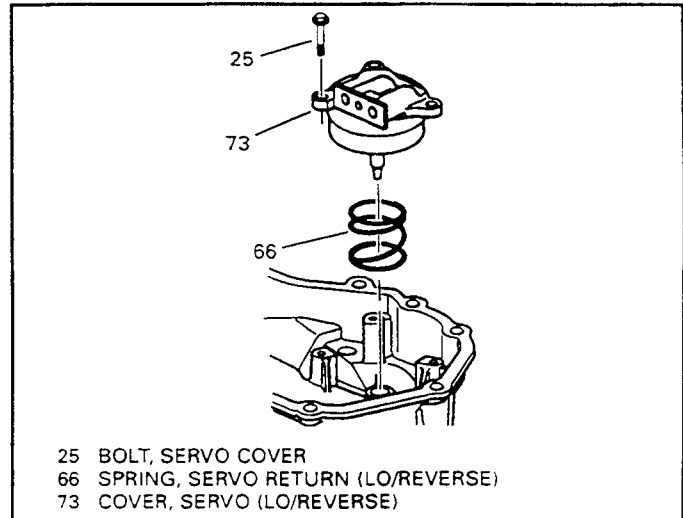

Figure 193
10. Install the lo/reverse servo return spring (66) into the transaxle case (See Figure 193).
11. Install the lo/reverse servo cover and piston as an assembly over the return spring, as shown in Figure 193.
12. Install the three lo/reverse servo cover bolts and torque to 9 ft.lb. as shown Figure 193.